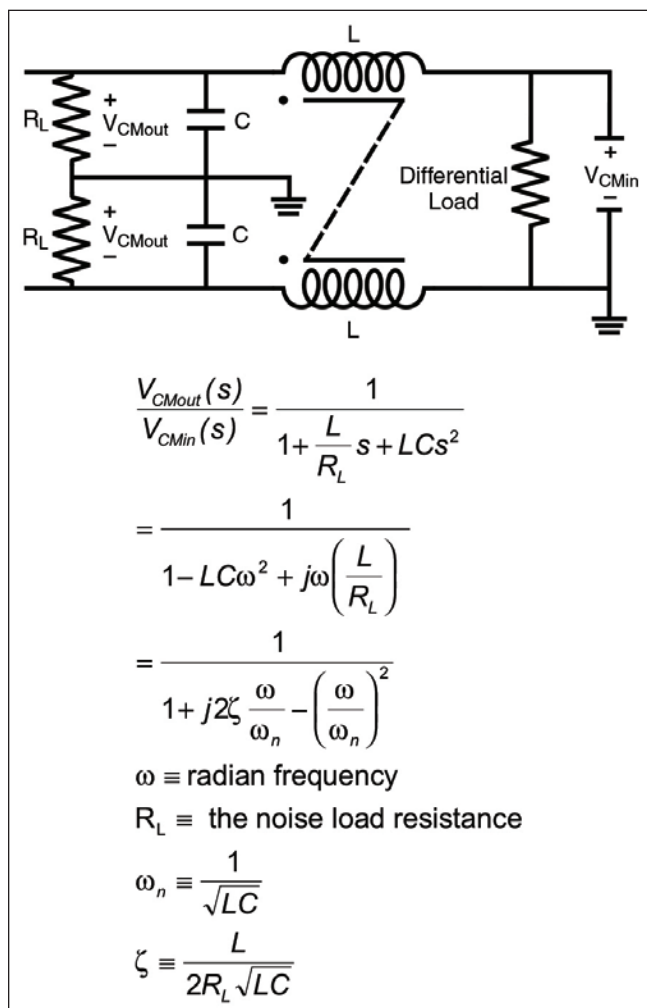

Figure 4: Analysis of a second order (two pole) common mode low pass filter
A second order filter uses two reactive components and has two advantages over the first order filter. Ideally, a second order filter: 1) provides 12 dB per octave attenuation (four times that of a first order filter) after the cutoff point; and 2) provides greater attenuation at frequencies above inductor self-resonance (see Figure 4).
7. The resulting filter is that of Figure 4 with: